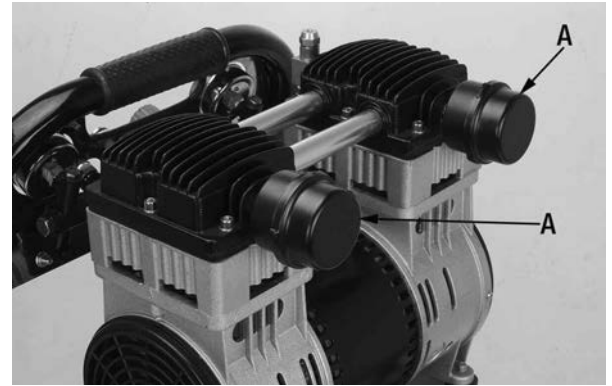

FIGURE 3
1. Install both air filters (A) Fig.3 to the pump castings as shown.